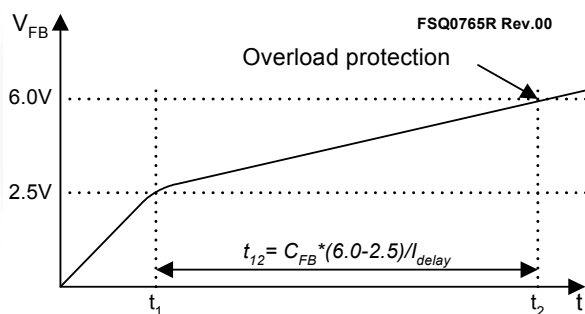

Figure 29. Overload Protection
**4.1 Overload Protection (OLP):** Overload is defined as the load current exceeding its normal level due to an unexpected abnormal event. In this situation, the protection circuit should trigger to protect the SMPS. However, even when the SMPS is in the normal operation, the overload protection circuit can be triggered during the load transition. To avoid this undesired operation, the overload protection circuit is designed to trigger only after a specified time to determine whether it is a transient situation or a true overload situation. Because of the pulse-by-pulse current limit capability, the maximum peak current through the SenseFET is limited, and therefore the maximum input power is restricted with a given input voltage. If the output consumes more than this maximum power, the output voltage ( $V_O$ ) decreases below the set voltage. This reduces the current through the optocoupler LED, which also reduces the optocoupler transistor current, thus increasing the feedback voltage ( $V_{FB}$ ). If  $V_{FB}$  exceeds 2.5V, D1 is blocked and the 5 $\mu$ A current source starts to charge CB slowly up to  $V_{CC}$ . In this condition,  $V_{FB}$  continues increasing until it reaches 6V, when the switching operation is terminated, as shown in Figure 29. The delay time for shutdown is the time required to charge  $C_{FB}$  from 2.5V to 6V with 5 $\mu$ A. A 20 ~ 50ms delay time is typical for most applications.